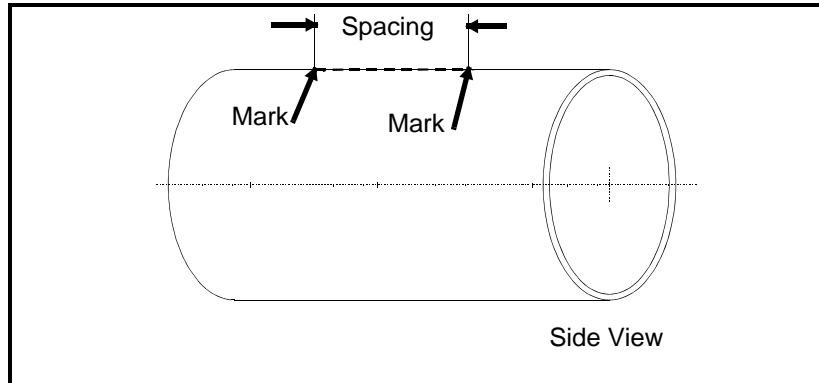

Figure 1-17: Marking Transducer Spacing
5. Make two marks (shown in Figure 1-17 below) on the line equal to the transducer spacing distance S , as calculated by the meter.